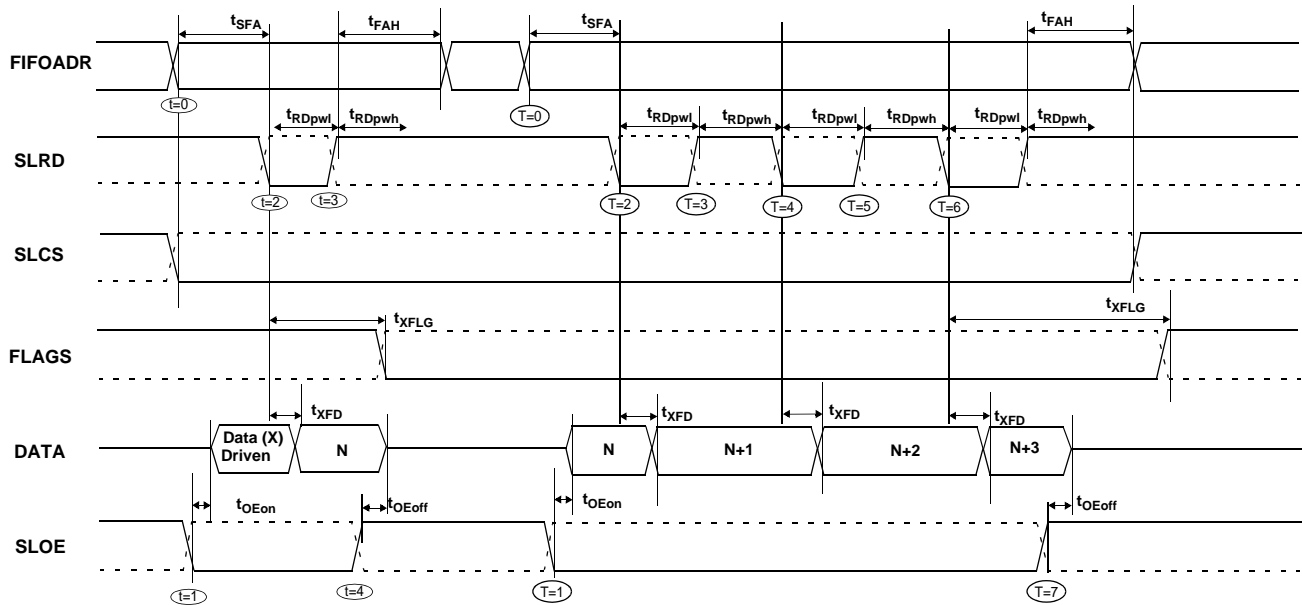

Figure 10-21. Slave FIFO Asynchronous Read Sequence and Timing Diagram^[20]
Figure 10-21 diagrams the timing relationship of the SLAVE FIFO signals during an asynchronous FIFO read. It shows a single read followed by a burst read.
- The data that will be driven, after asserting SLRD, is the updated data from the FIFO. This data is valid after a propagation delay of t_{XFD} from the activating edge of SLRD. In Figure 10-21, data N is the first valid data read from the FIFO. For data to appear on the data bus during the read cycle (i.e., SLRD is asserted), SLOE MUST be in an asserted state. SLRD and SLOE can also be tied together.